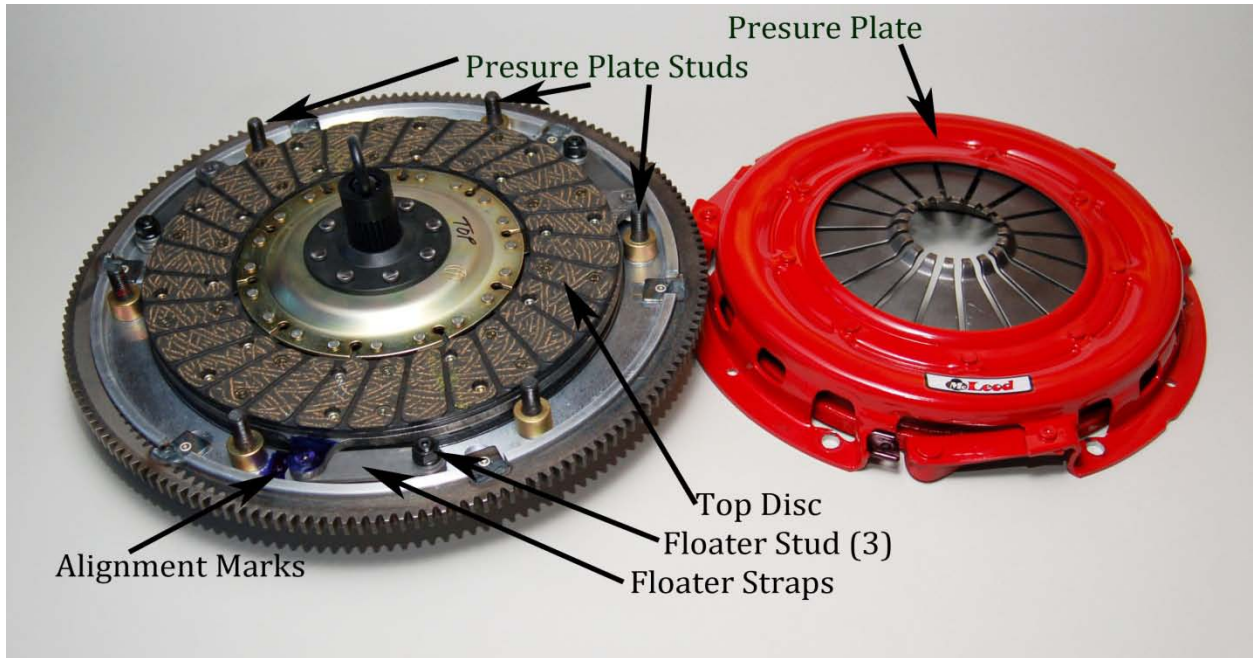

Figure 2
- 3) Remove top disc and alignment tool. Notice the hub on the disc is cupped toward the transmission. Also note the "Flywheel Side" sticker on the disc center. See Figure 2